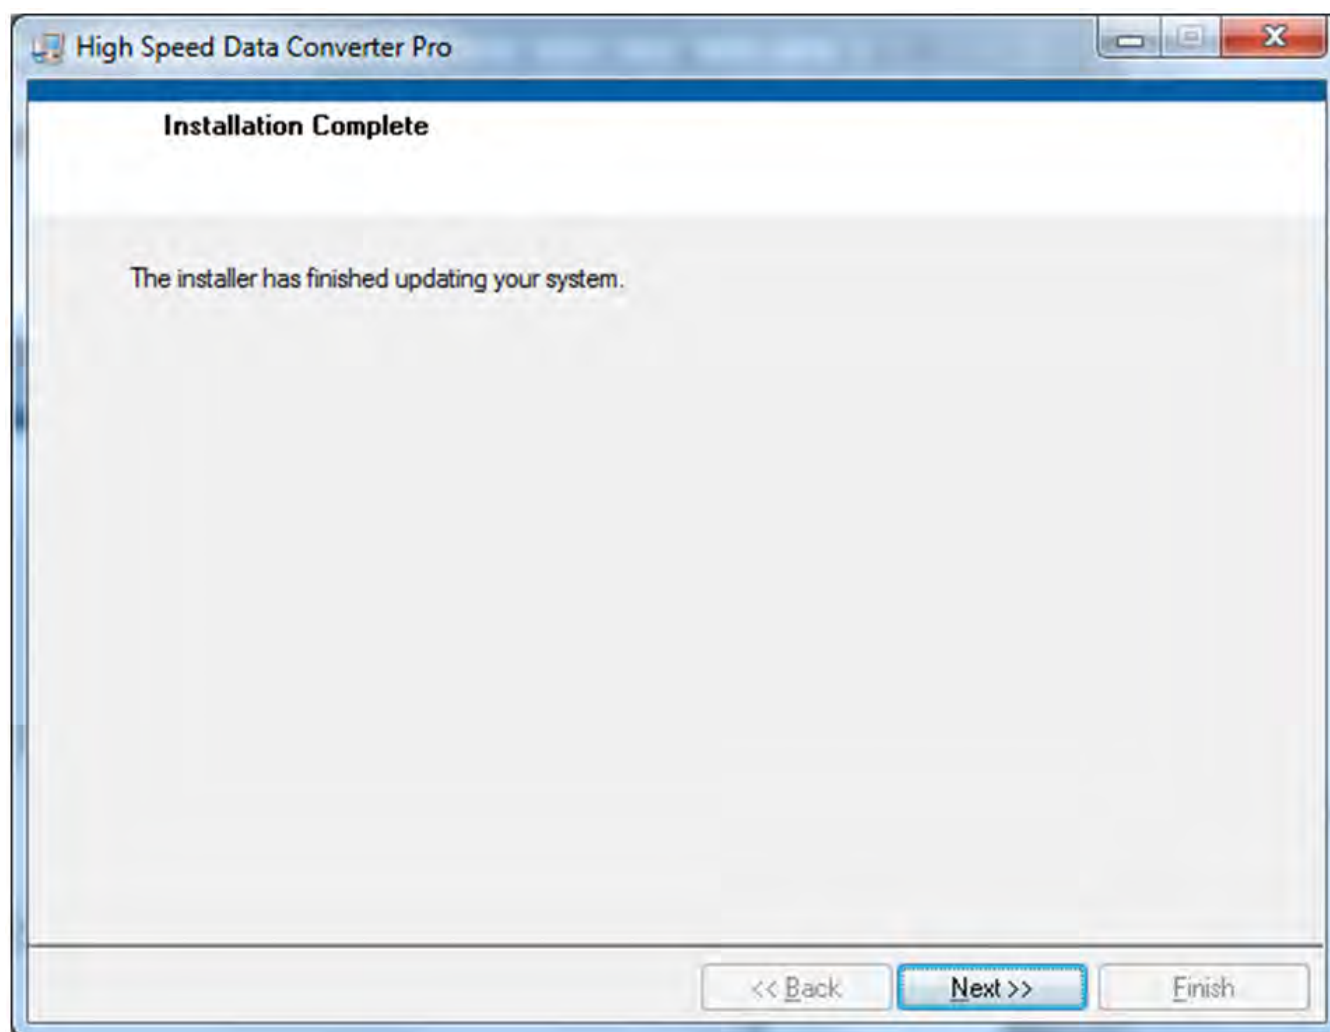

Figure 36. HSDCPro Install (Installation Complete)
- The window shown in Figure 36 appears indicating *Installation Complete*. Press the *Next* button.